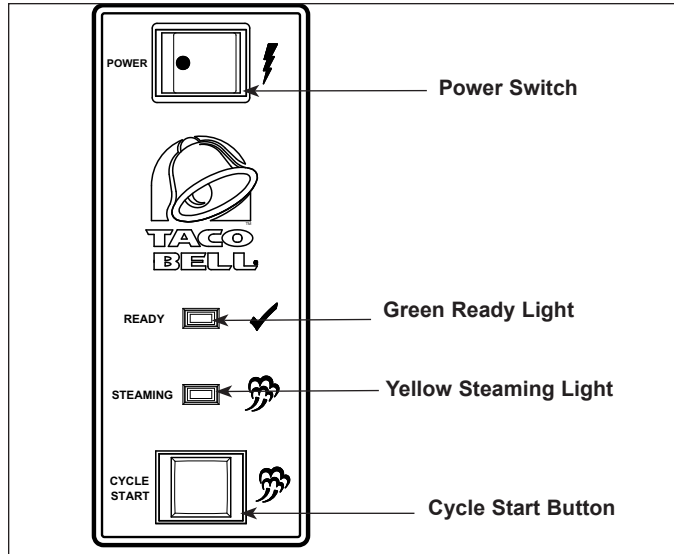

Figure 6. Operating Controls
1. Turn the power on and allow the unit to preheat for approximately 20-30 minutes (Figure 6).
NOTE: The Green Ready Light (Figure 6) will flash during warm-up. The flashing light will become steady when the unit is up to temperature. If the Green Ready Light continues to flash after warm-up, or starts to flash during operation, see the Troubleshooting section in this manual.